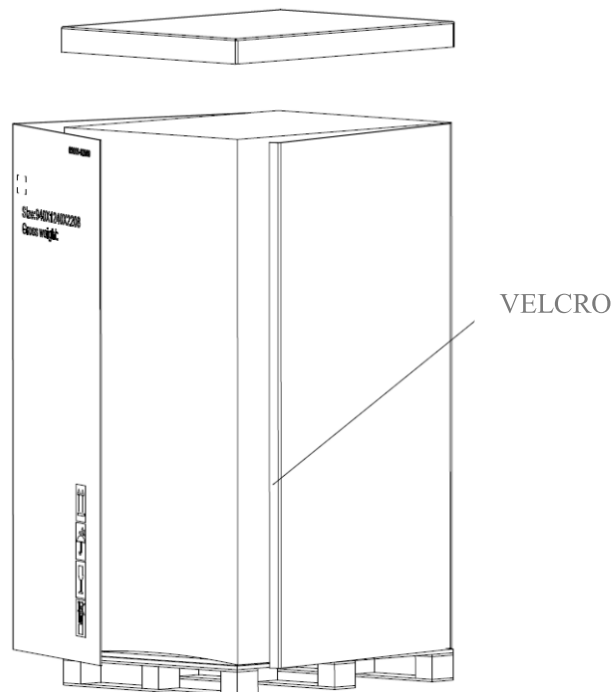

Figure 3-4 Disassemble the box
**Step 3:** Remove the top cover, tear off the Velcro, and remove the carton fence as Figure 3-4: